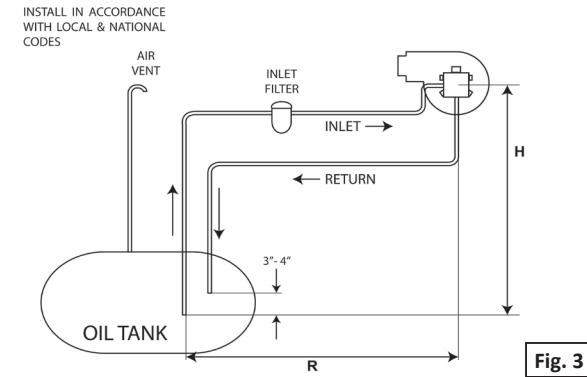

Fig. 3
**TWO-PIPE SYSTEM - INLET AND RETURN LINE - FIGURE 3 :**
Priming is automatic, but may be accelerated by opening the bleed valve. See 2-P sketches below (figure 3), and see the chart or recommended line sizes and lengths.
Always terminate return line as shown in Figure 3. Line lengths include both vertical and horizontal lengths.